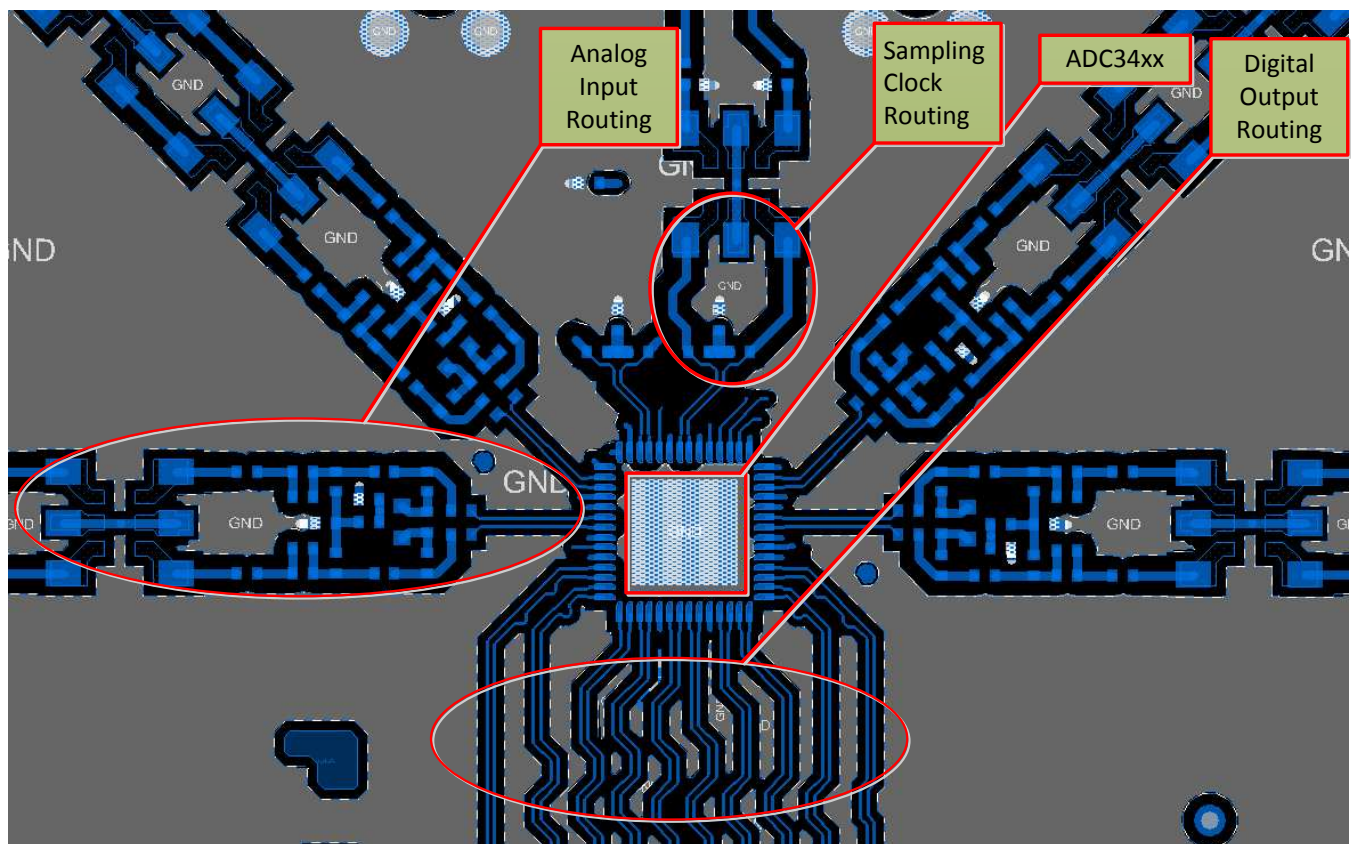

Figure 193. Typical Layout of the ADC344x Board
The ADC344x EVM layout can be used as a reference layout to obtain the best performance. A layout diagram of the EVM top layer is provided in Figure 193. Some important points to remember during laying out the board are:
1. Analog inputs are located on opposite sides of the device pin out to ensure minimum crosstalk on the package level. To minimize crosstalk onboard, the analog inputs must exit the pin out in opposite directions, as shown in the reference layout of Figure 193 as much as possible.
2. In the device pin out, the sampling clock is located on a side perpendicular to the analog inputs in order to minimize coupling between them. This configuration is also maintained on the reference layout of Figure 193 as much as possible.